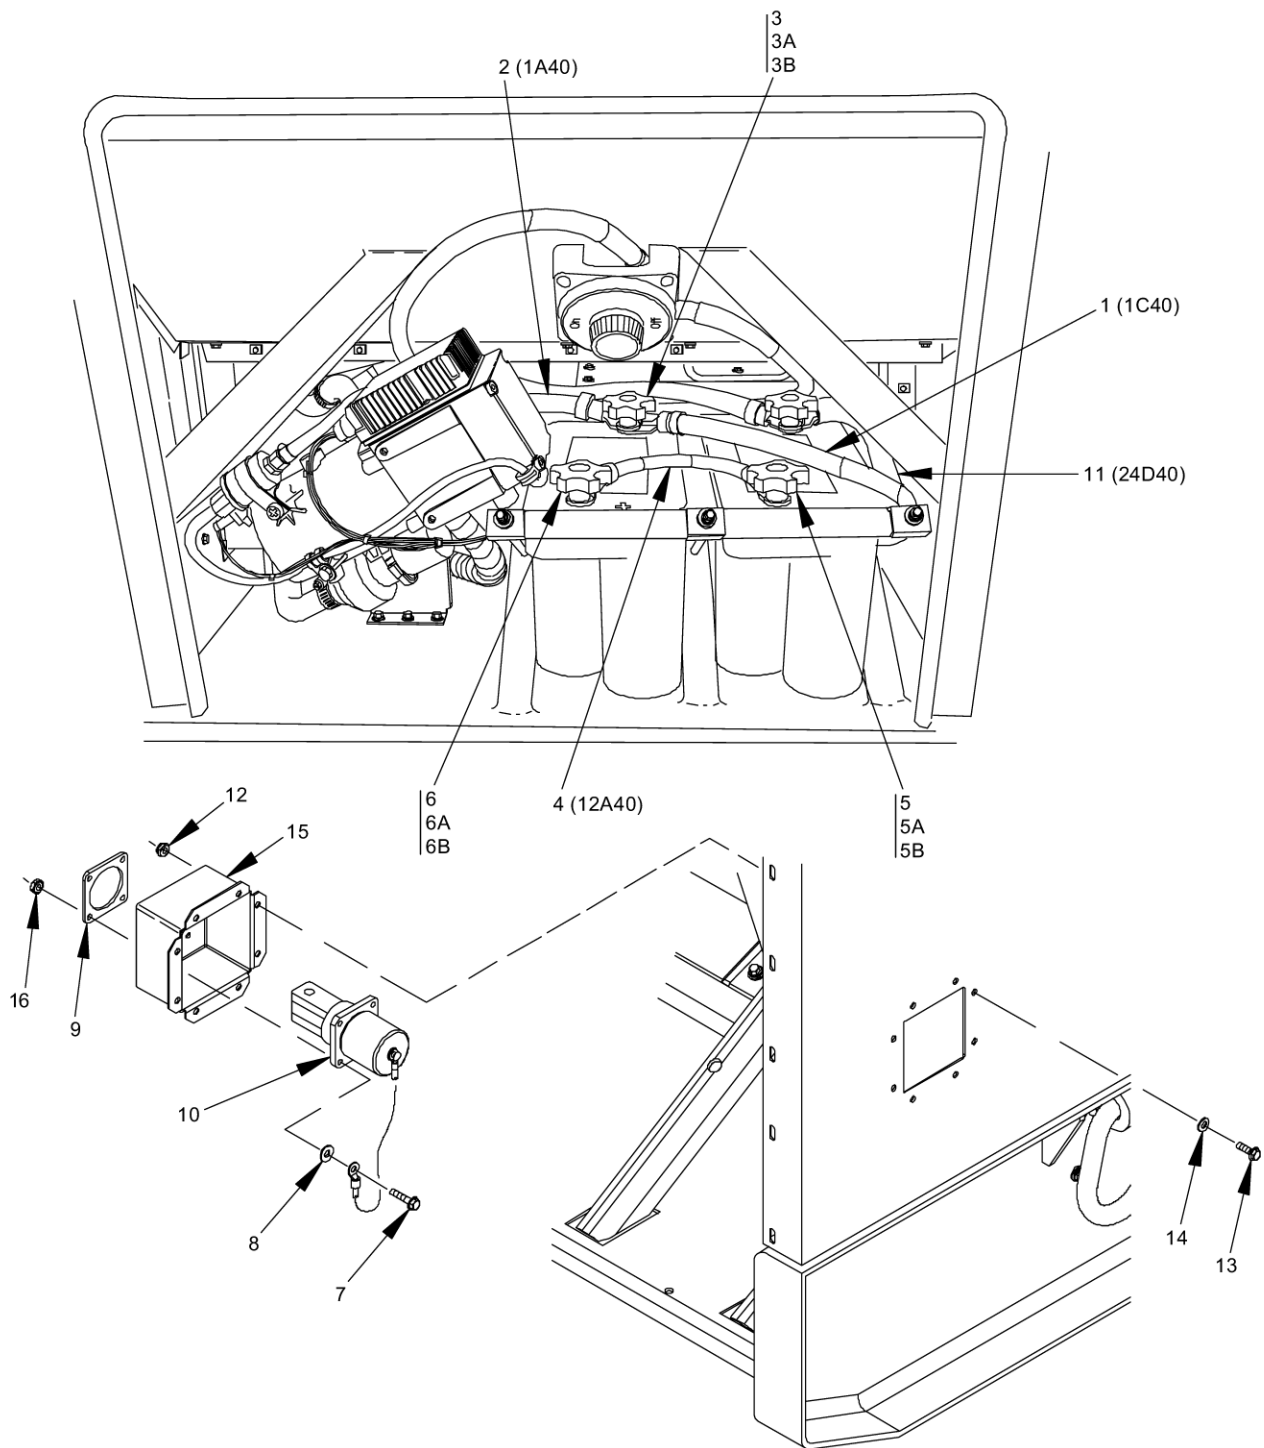

Figure 1. Slave Receptacle.
7. Tag and disconnect battery cables 1C40 (Figure 1, Item 1) and 24D40 (Figure 1, Item 11) from slave receptacle (Figure 1, Item 10).
8. Remove eight locknuts (Figure 1, Item 12), washers (Figure 1, Item 13), screws (Figure 1, Item 14), and slave receptacle pocket (Figure 1, Item 15).
1. Install slave receptacle pocket (Figure 1, Item 15), eight screws (Figure 1, Item 14), washers (Figure 1, Item 13), and locknuts (Figure 1, Item 12).
2. Remove tags and connect battery cables 1C40 (Figure 1, Item 1) and 24D40 (Figure 1, Item 11) to slave receptacle (Figure 1, Item 10).
3. Install slave receptacle (Figure 1, Item 10) and retainer (Figure 1, Item 9) with four washers (Figure 1, Item 8), screws (Figure 1, Item 7), and nuts (Figure 1, Item 16).
4. Install battery cable 12A40 (Figure 1, Item 4) on battery BT1 (right battery) negative terminal and battery BT2 (left battery) positive terminal and secure with flat washer (Figure 1, Item 5B), lock washer (Figure 1, Item 5A), and battery terminal knob (Figure 1, Item 5), and flat washer (Figure 1, Item 6B), lock washer (Figure 1, Item 6A), and battery terminal knob (Figure 1, Item 6). Remove tag from battery cable.
5. Install battery cable 1A40 (Figure 1, Item 2) and battery cable 1C40 (Figure 1, Item 1) on battery BT2 (left battery) negative terminal and secure with flat washer (Figure 1, Item 3B), lock washer (Figure 1, Item 3A), and battery terminal knob (Figure 1, Item 3). Remove tags from battery cables.